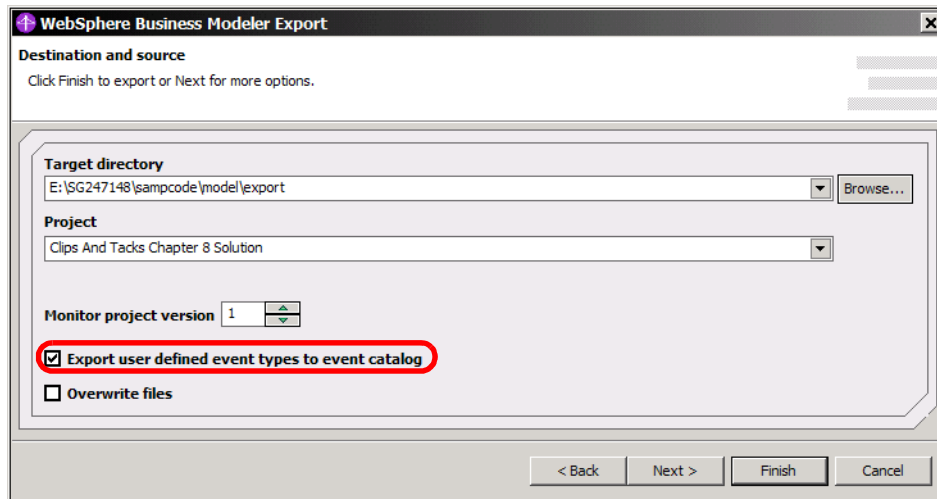

Figure 8-38 Export: Destination and source
- ▶ Define the destination and source information export (Figure 8-38):
The target directory specified in Figure 8-38 contains two files: